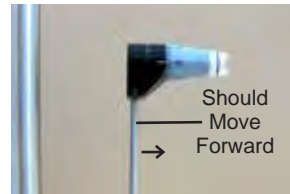

Figure CA-10 Move Forward
13. The pressure arm should move from the free movement zone to the stop in the direction of the patient (Prism side). Refer to Figure CA-10.